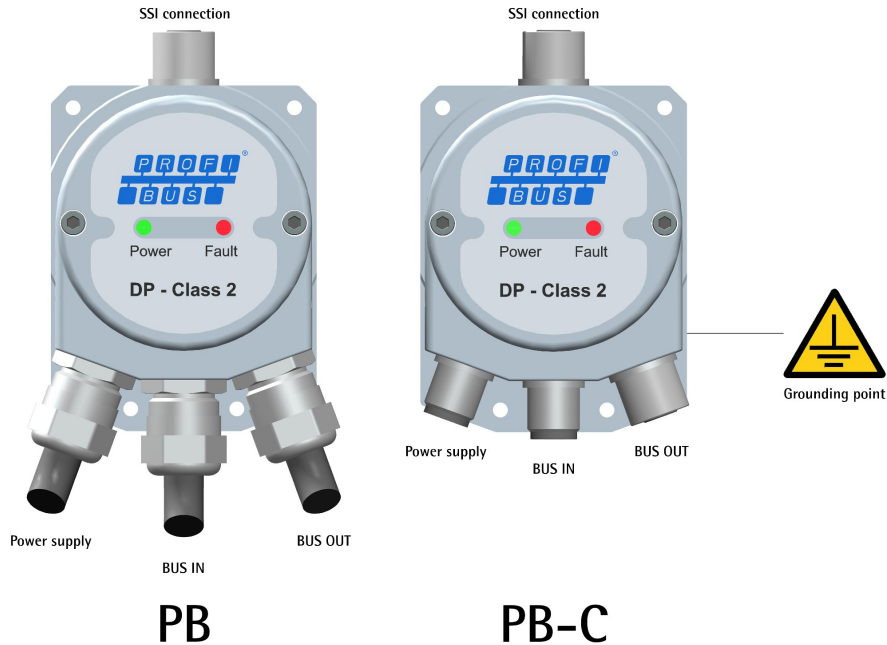

Figure 4
## 4.2 SSI connection (Figure 4)
**4.3 Profibus converter with PGs: PB version (Figure 4 and Figure 6)**
#### 4.4 Profibus converter with M12 connectors: PB-C version (Figure 4 and Figure 7)